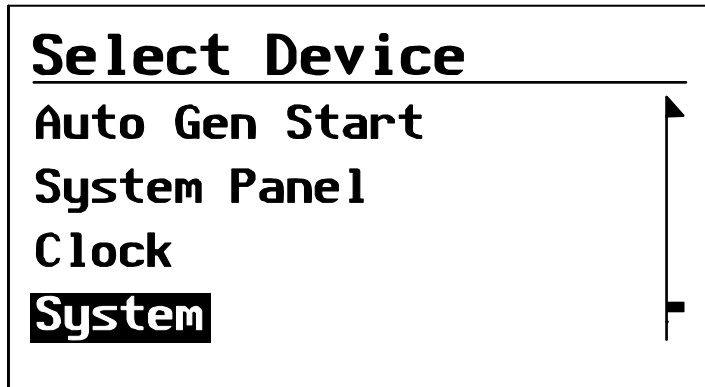

Figure 17 Highlighting System on the Select Device Menu
1. On the Select Device menu with System highlighted, as shown in Figure 17, press Enter.